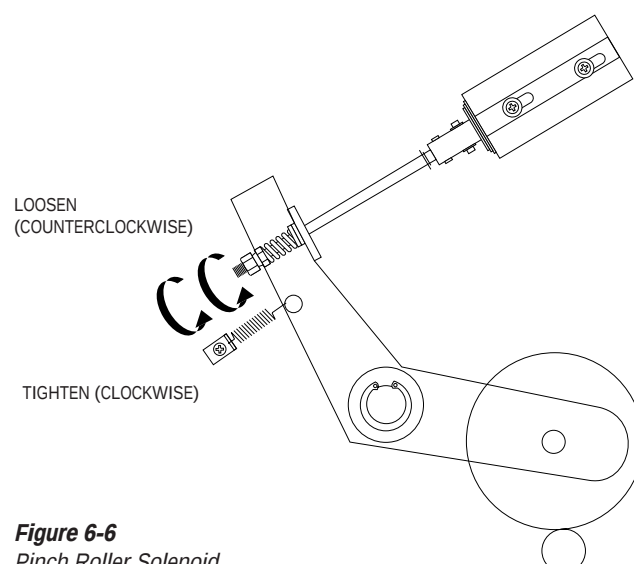

Figure 6-6
6. If a proper scale reading was not obtained in step 5, loosen the locknut and adjust the nut as shown in Figure 6-6. Turning the nut toward the spring increases pinch roller pressure. Tighten the locknut.
6. If a proper scale reading is not obtained in step 5, adjust the nut shown in Figure 6-6. Loosen the LOCK nut and Adjust the Adjustment Nut . Turning the Nut in the spring direction increases the pinch roller pressure. Tighten the Lock Nut after adjustment.